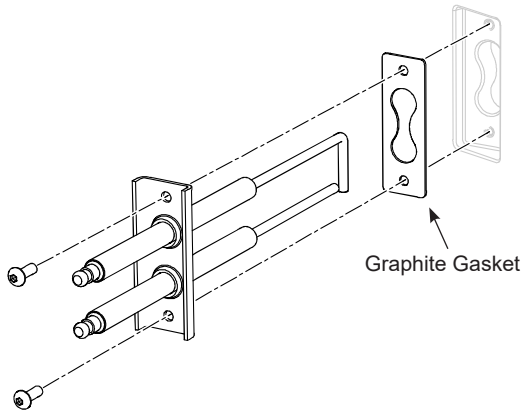

Figure 31: Igniter Electrode Assembly
- e. Install igniter electrode in the orientation shown in Figure 31; otherwise, the unit will not light.